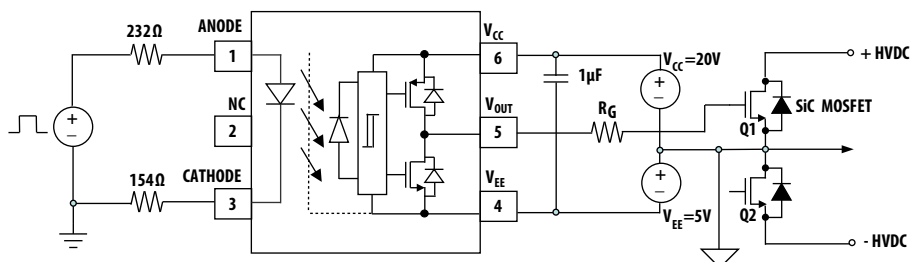

Figure 20. Recommended application circuit with split resistors LED drive.
The recommended application circuit shown in Figure 20 illustrates a typical gate drive implementation using the ACPL-P349/W349.
Step 1: Calculate RG minimum from the IOL peak specification. The SiC/GaN MOSFET and RG in Figure 20 can be analyzed as a simple RC circuit with a voltage supplied by ACPL-P349/W349.
The ACPL-P349/W349 includes a Propagation Delay Difference (PDD) specification intended to help designers minimize “dead time” in their power inverter designs. Dead time is the time period during which both the high and low side power transistors (Q1 and Q2 in Figure 20) are off. Any overlap in Q1 and Q2 conduction will result in large currents flowing through the power devices between the high and low voltage motor rails.